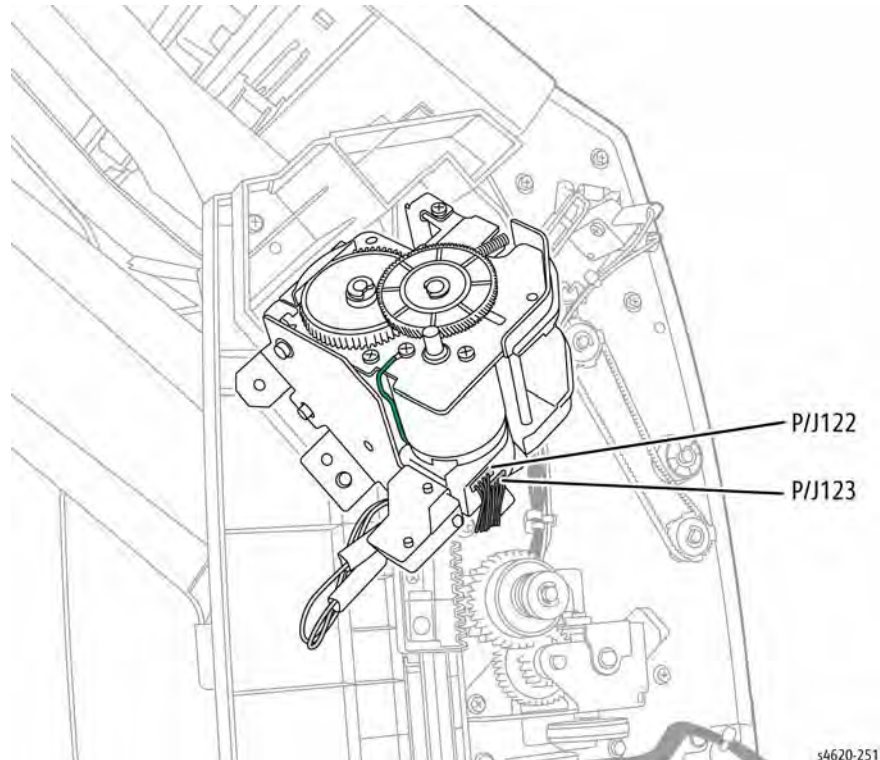

Figure 1 Disconnect the Stapler Assembly
3. Disconnect P/J122 and P/J123 from the Stapler Assembly, Figure 1.